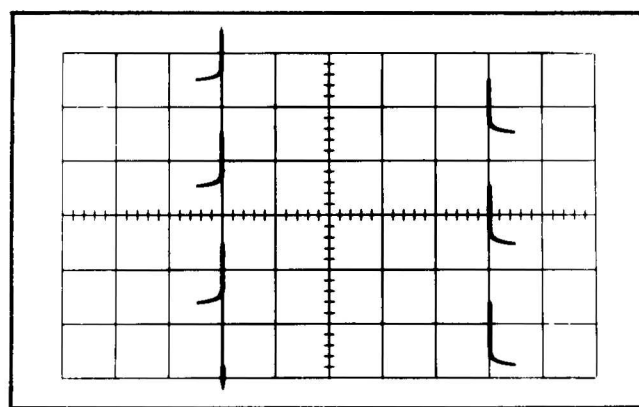

Fig. 5-10. Distortion obtained when C503C is misadjusted.
- c. Adjust C503C (see Fig. 5-2) for optimum square-wave response. The display should exhibit no more than $\pm 3\%$ hook on the positive-going or negative-going leading corners of the calibrator waveform. When C503C is properly adjusted, the calibrator waveform should appear similar to the display shown in Fig. 5-9a. Fig. 5-10 shows one form of distortion obtained if C503C is misadjusted.